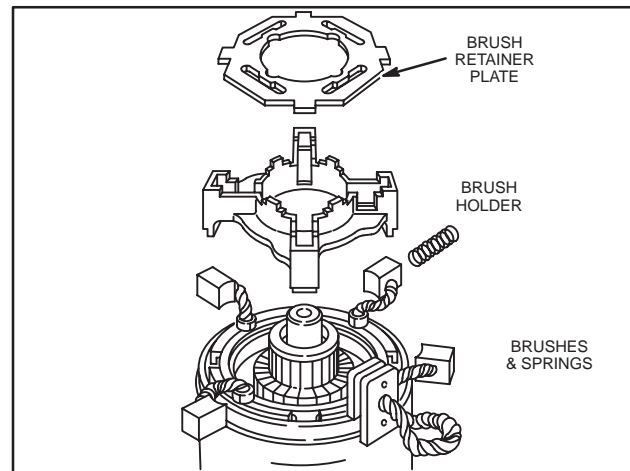

Fig. 61 – Removing brushes
5. Remove brushes and springs from brush holder, Fig. 61.